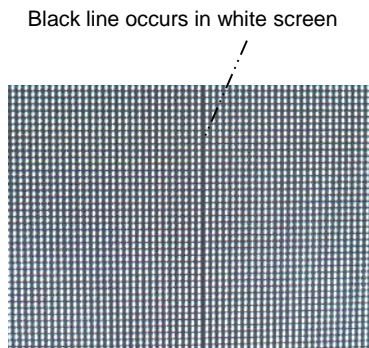

Fig.1 Black line
- ① Check whether there is any Black Line between the cabinets in White Screen. (Fig.1)